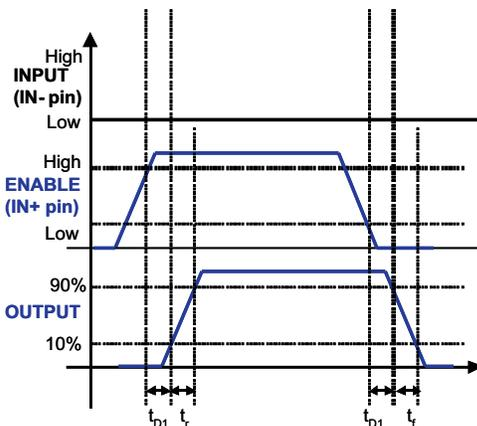
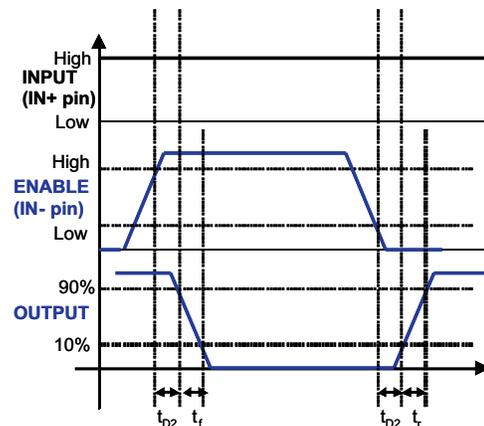

**Figure 1. Non-Inverting Configuration**
**Figure 2. Inverting Configuration**
(1) See timing diagrams in Figure 1, Figure 2, Figure 3 and Figure 4.